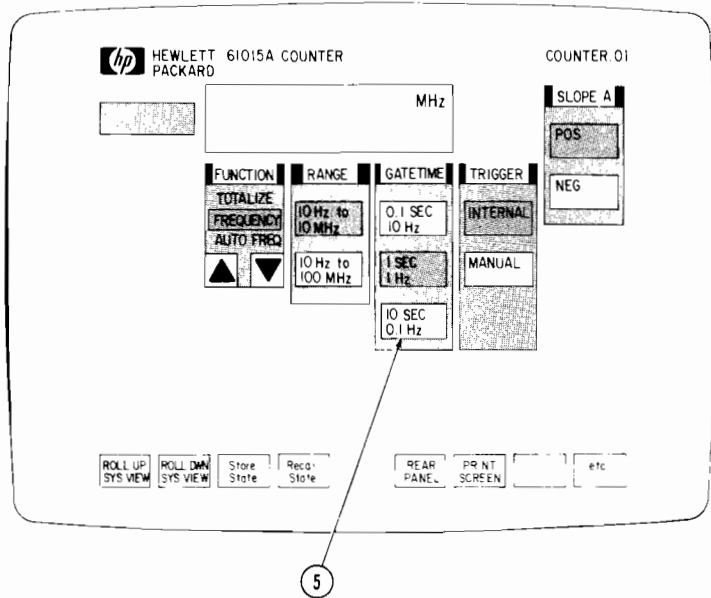

Figure 2-5. Change The Gate Time
Step 5 - As Figure 2-5 shows, completing Step 4 causes the 10 second gatetime choice to appear. The resolution of the displayed measurement value depends on the setting of the GATETIME switch. Selecting a longer gatetime yields greater resolution but takes longer to make the measurement. Change the gatetime by pointing to and selecting the 10 SEC gatetime.